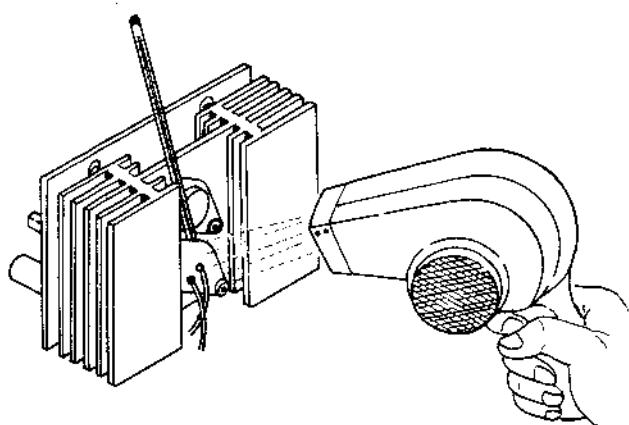

Fig. 4-7-3 Thermal Sensitive Protection Check
Step 3: Insert a thermometer between the power transistor and CS₁. Heat the power transistor and CS₁ gradually using a heat blower, as shown in Fig. 4-7-3.